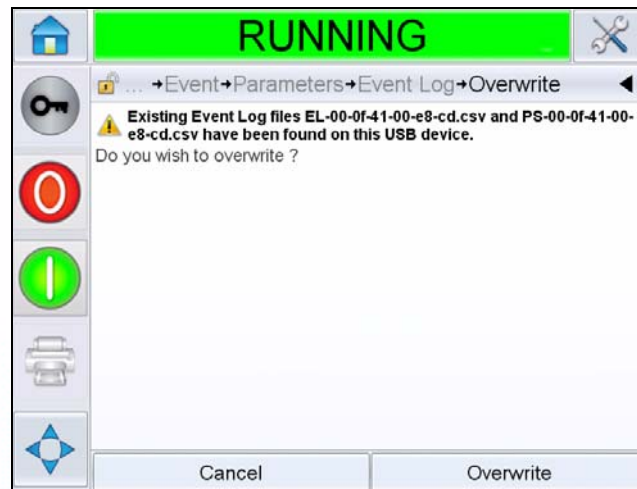

Figure 6-9: Overwrite Files
**Note:** Ensure that the USB stick does not have any previous exported data as you will be asked to overwrite the files (see Figure 6-9).